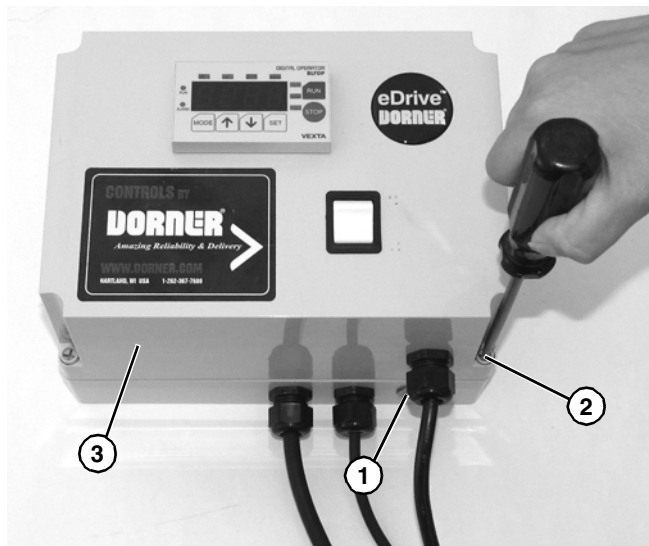

Figure 21
- Remove access plug (**Figure 21, item 1**).
- Open controller by loosening four plastic cover screws (**Figure 21, item 2**), and removing controller case cover (**Figure 21, item 3**).